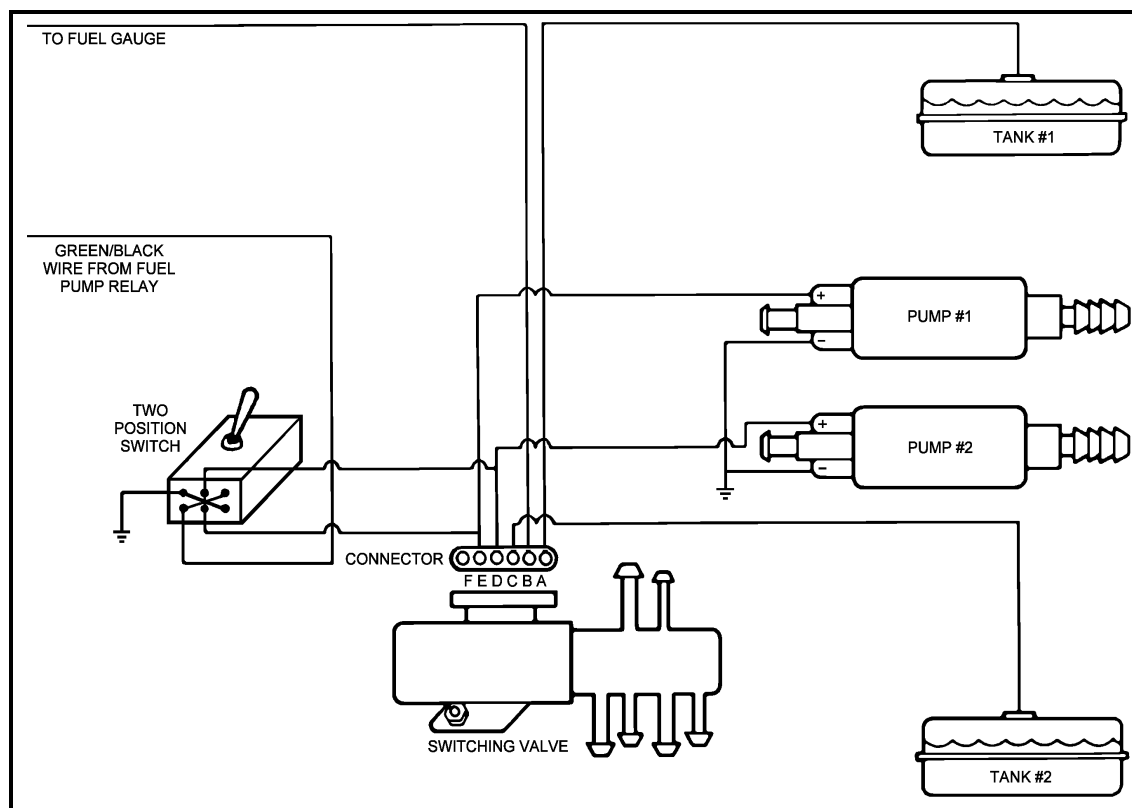

Figure 7
3. Mount the double-position, double-throw toggle switch, along with the relay under the dash if the vehicle is not already equipped with this type switch. Connect the electrical wiring, as shown in Figure 7 on the next page.
**NOTE:** Mount the double position, double throw toggle switch along with the relay under the dash if the vehicle is not already equipped with this type switch. Connect the electrical wiring, as shown in Figure 7 on the next page.